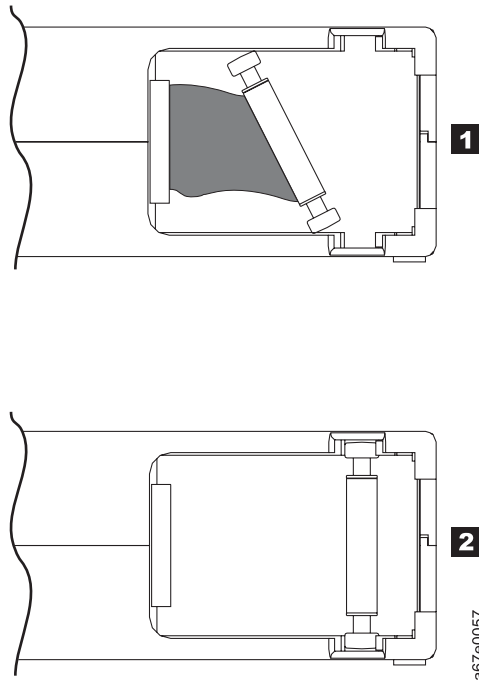

Figure B-1. Leader pin in the incorrect and correct positions. The cartridge door is open and the leader pin is visible inside the cartridge.
**Example: Improper Placement of Leader Pin (see Figure B-1 on page B-2)**
A leader pin that is improperly seated inside a cartridge can interfere with the operation of the drive. Figure B-1 on page B-2 shows a leader pin in the incorrect **1** and correct **2** positions.